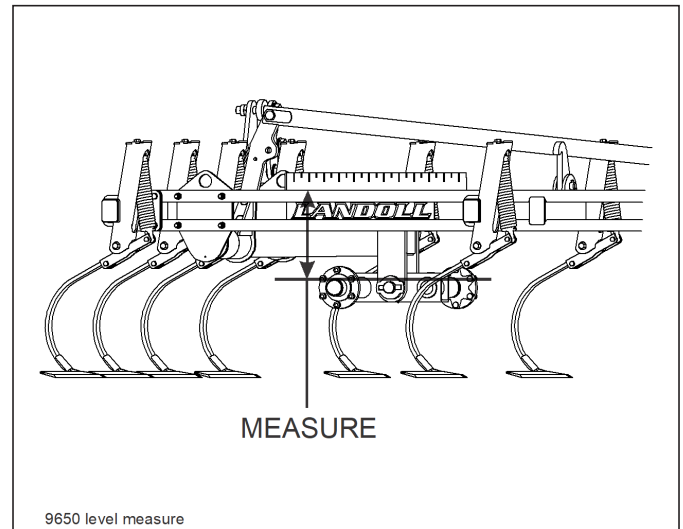

Figure 4-8: Leveling Center Frame from Side to Side
2. To level the unit, verify that all tires are properly inflated. With the implement unfolded, raise the unit to fully extend the lift cylinders. Continue to hold the tractor lever 30-60 seconds to insure that the cylinders are fully extended and the rephasing lift system has been purged of air. Lower the implement until the sweeps are approximately 1" off the ground. On the center frame, lay a straight-edge across the top of the frame, and measure the distance from the walking tandem spindle to the top side of the frame of both walking tandems See Figure 4-8. Adjust the lift arms at the front of the Field Cultivator center frame until the spindle heights are the same.